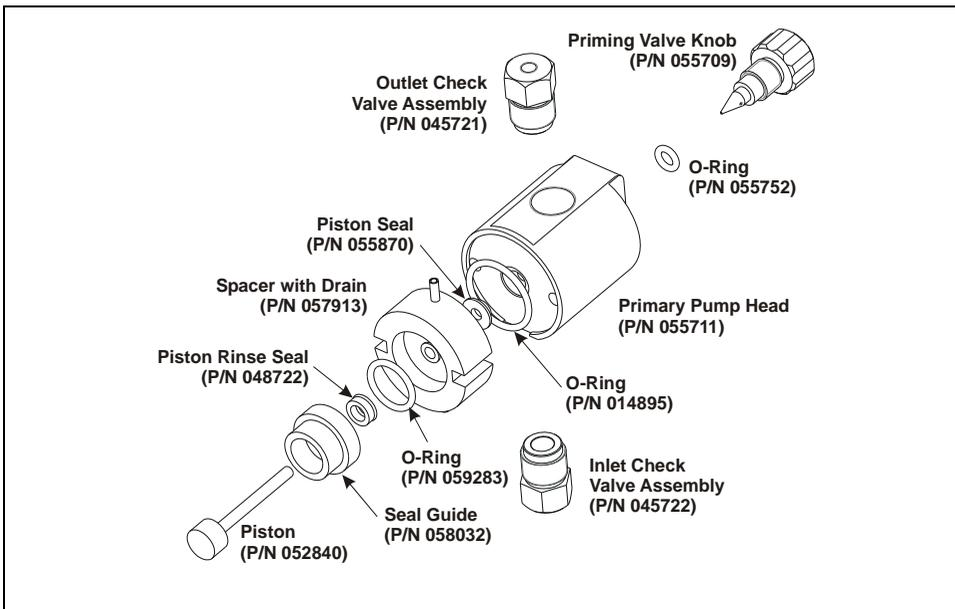
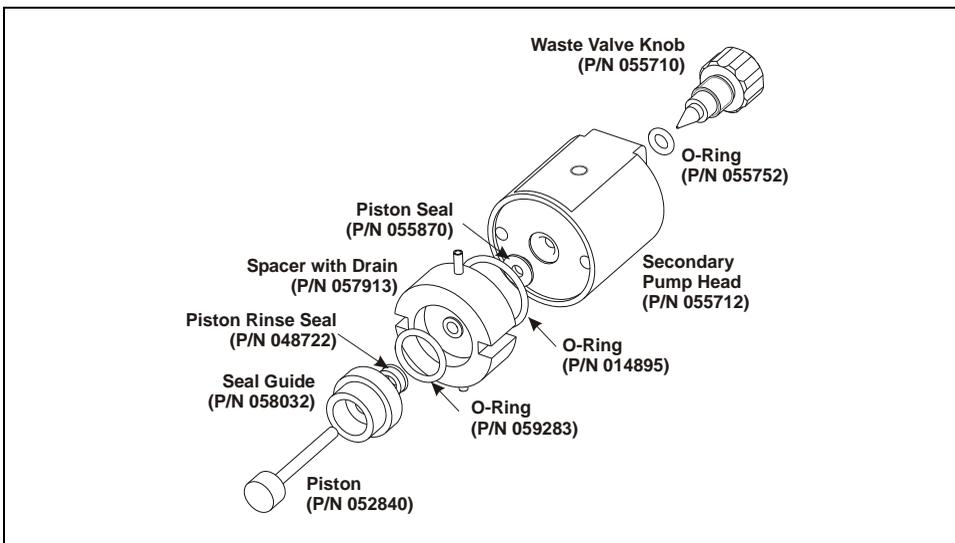

Figure 5-8. Primary Pump Head
Figure 5-9. Secondary Pump Head
5. Place the head (front end down) on a clean work surface and lift off the spacer to expose the piston seal (see Figure 5-8 or Figure 5-9).